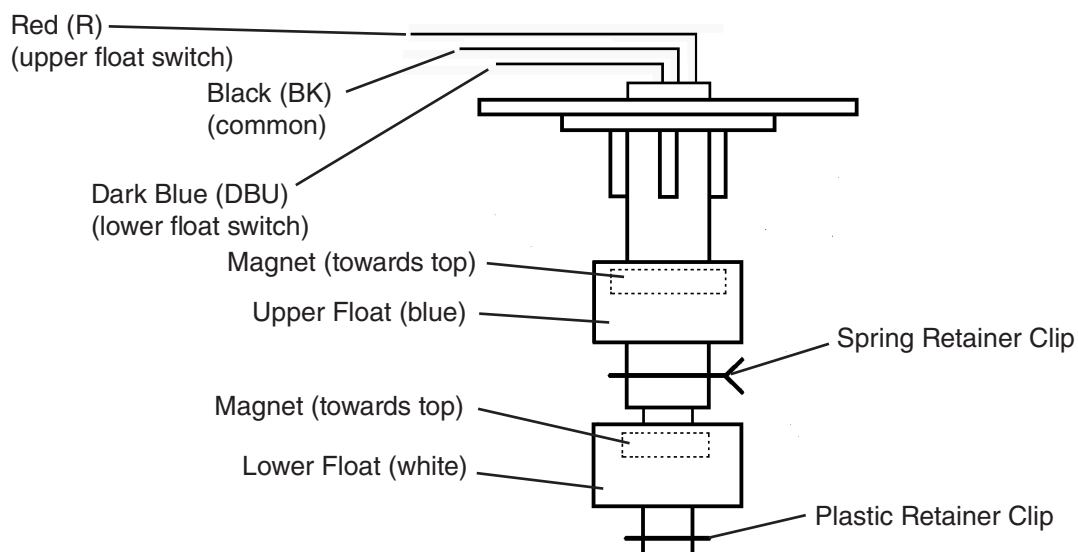

Fig. 5
- 5) While not necessary, the floats can be removed from the shaft during cleaning. If you remove them, note that the blue float is on top (UFS) and the white float is on bottom (LFS). The floats must be installed with the magnets inside them towards the top of the switch. See Fig. 5. Installing the floats upside down will affect the timing of FS operation.